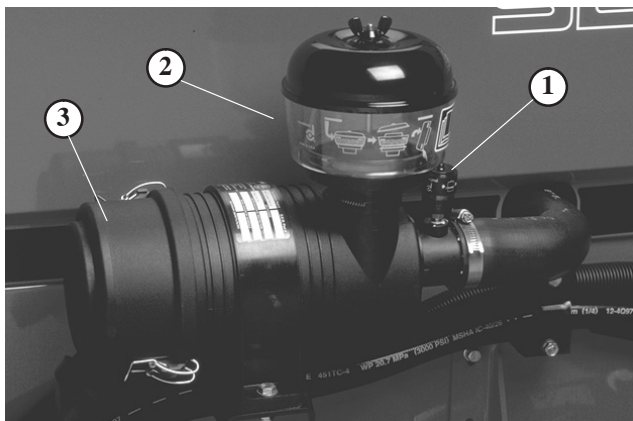

Figure 46
1. Remove thumb screw and separate cover from precleaner bowl (Fig. 46).
1. Release the latches and remove the cover from the air cleaner body (Fig. 46). Before removing the filter, use low pressure air (40 psi, clean and dry) to help remove large accumulations of debris packed between outside of primary filter and the canister. Avoid using high pressure air which could force dirt through the filter into the intake tract. This cleaning process prevents debris from migrating into the intake when the primary filter is removed.
6. Reset indicator (Fig. 46) if showing red.